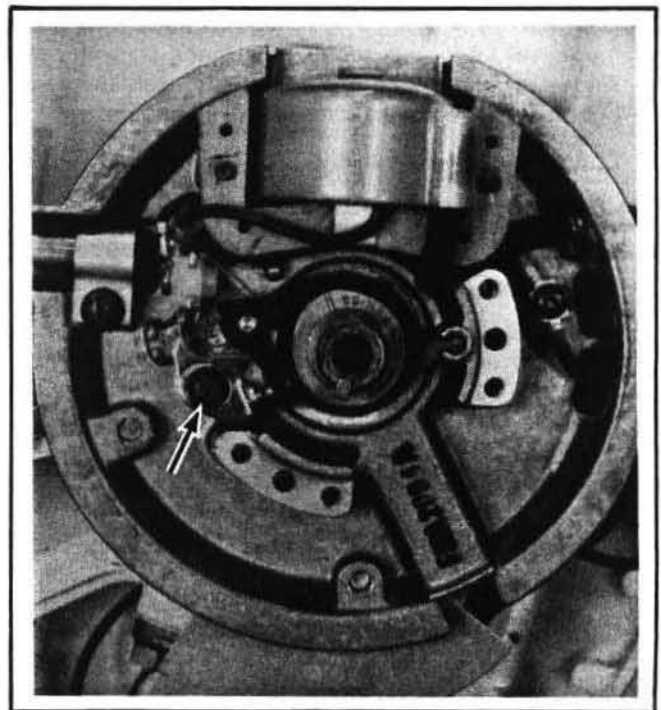

Figure 3. Removing Condenser.
3. Remove screw retaining condenser to stator plate. Figure 3.